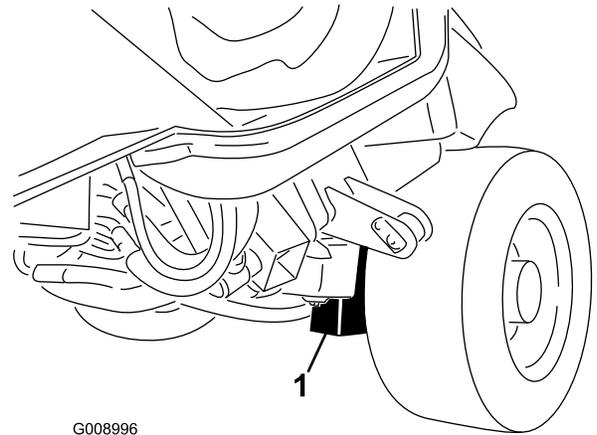

Figure 75
**Front of the machine**—on the frame, on the inside of each drive tire (Figure 75)